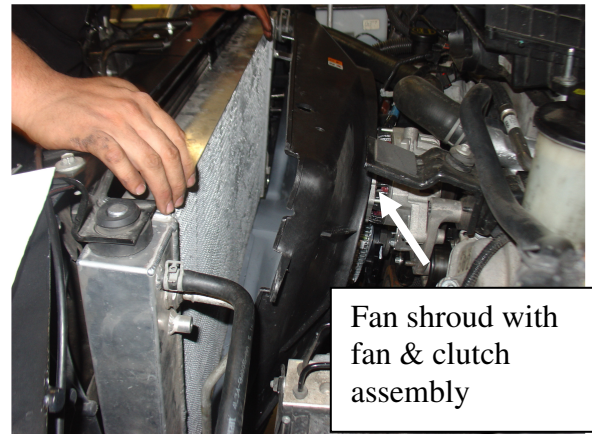

Figure 18
- Insert the fan into the fan shroud and insert both into the front of the engine bay. (Figure 18)